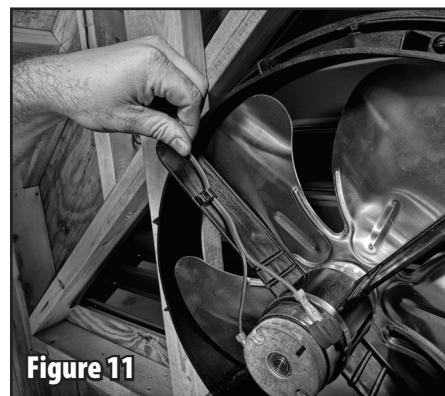

Figure 11
7. Inside the attic, route and secure the solar panel wire in place. Connect the red solar panel wire to the red motor terminal, then connect the black solar panel wire to the black motor terminal. **WARNING:** The unit will begin operation once the connection is made. See figure 11.